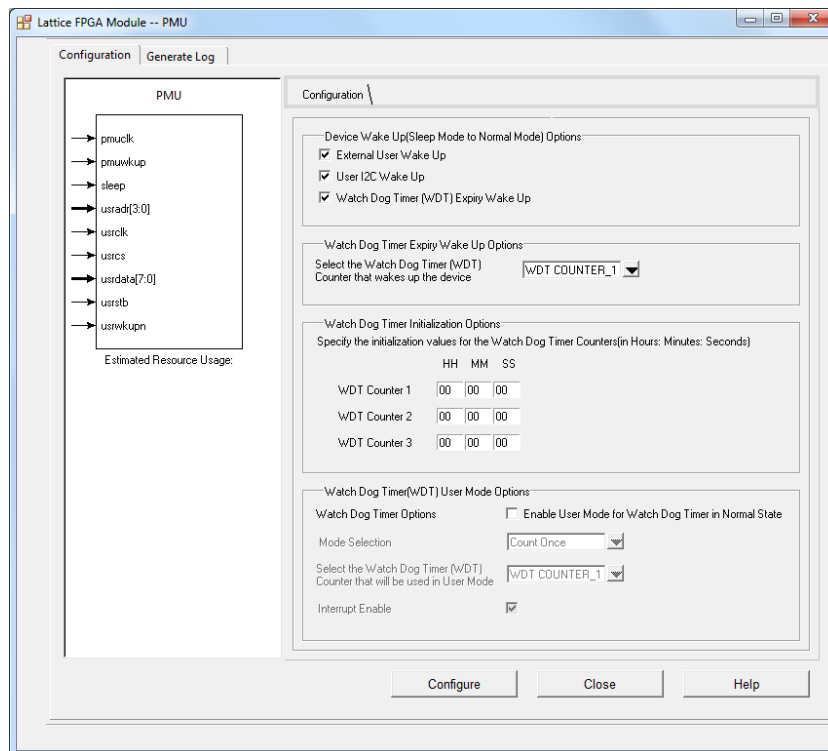

Figure 2.9. PMU Configuration GUI Window
6. The next screen shows the various options to configure the PMU. All these options have been discussed in the earlier sections. Figure 2.9 shows the Configuration GUI.